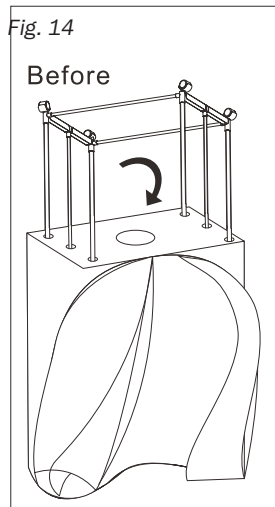

Fig. 14
11. Once you have attached the (C) BOTTOM module, turn the frame back upright so that the wheels are on the floor (see Figure 14).